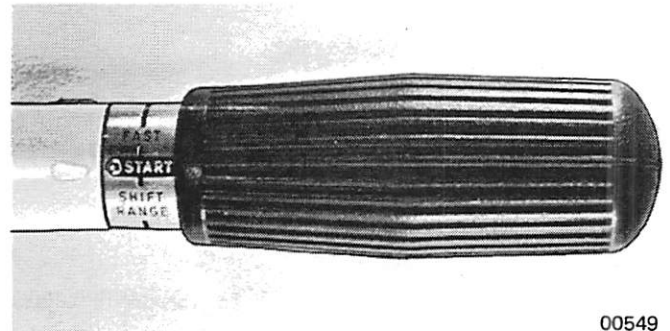

Figure 4. "Start" Position Adjustment
1. With engine running in neutral gear, turn twist grip to obtain 2400 to 2700 RPM. At this point, "Start" position on twist grip should align with indicator arrow on tiller handle. (Figure 4)